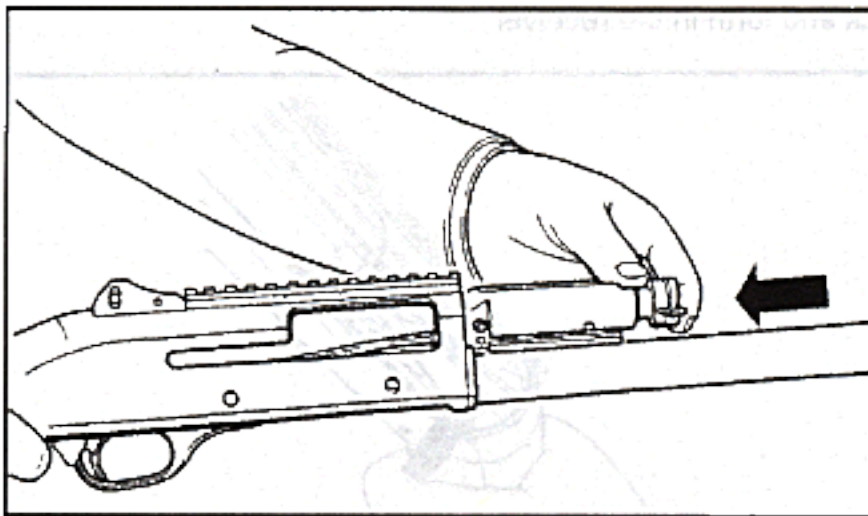

Figure 39. Installing the bolt group
4. **Insert bolt group** – Install the bolt group into the receiver, link first, the bolt head should face forward (**Figure 39**).